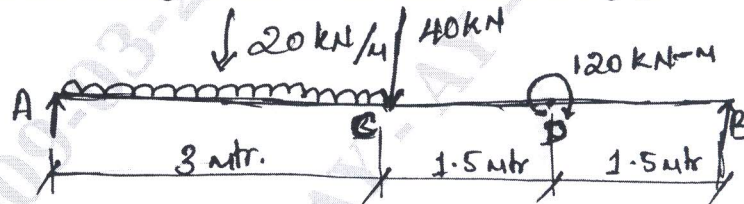

Fig Q6
- 6 Draw shear force and bending moment for the beam shown in Fig Q6.